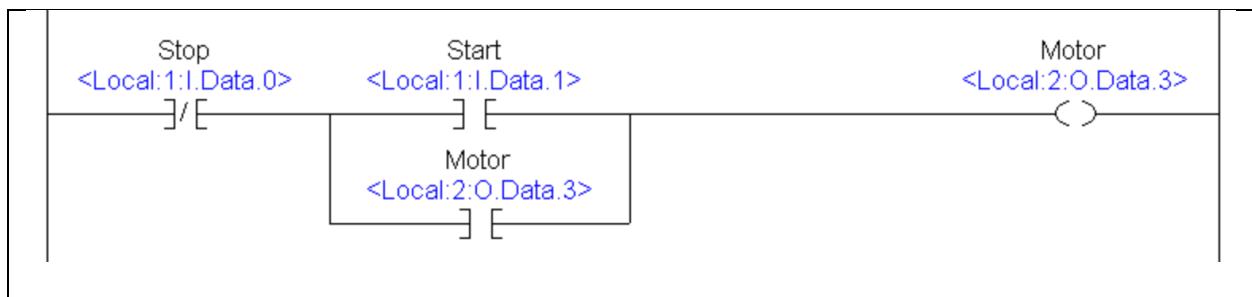

Figure 1. The rung of logic in the Main Routine.
1. Figure 1 the rung that will be created using Studio 5000 Logix Designer, then downloaded into the ControlLogix controller. View the following videos to see the steps required to create this project.